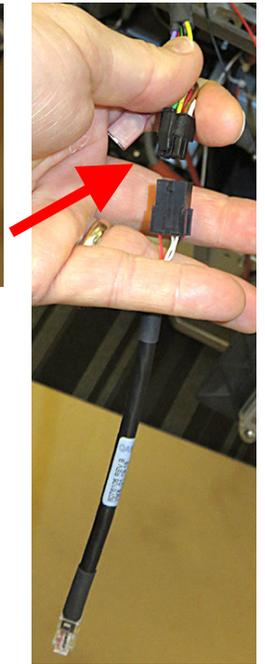

Figure 26
32. Attach the new 8076106 adaptor to the 6-pin male end of the OQS harness (see Figure 26).